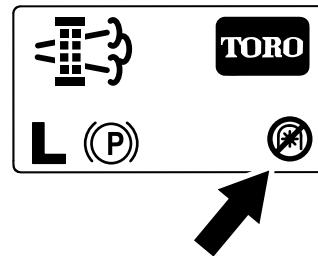

Figure 50
**Note:** The Home screen displays the PTO disabled icon (Figure 50).
**Note:** The Home screen displays the PTO disabled icon; refer to Figure 50 in Parked Regeneration Messages \(page 37\).